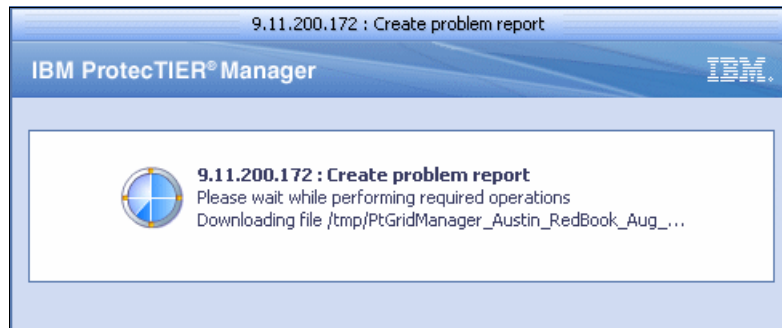

Figure 10-75 Create problem report window
9. Click **Save**. The report file is saved to the selected location (Figure 10-75).